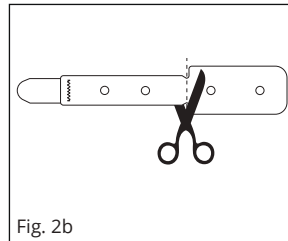

Fig. 2b
4. The foam wrap can be shortened for smaller site applications (child's finger or toe, pre-term infant's foot or hand). (see **Fig. 2b**)